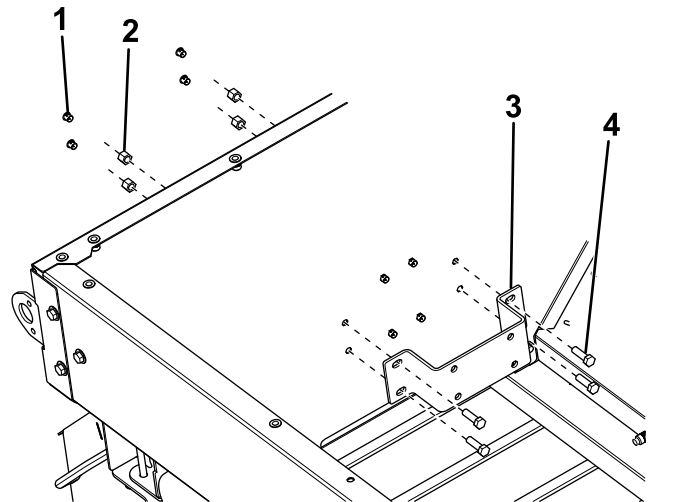

Figure 13
3. Remove and discard the 4 outer plugs from the rear of the spreader (Figure 13).
4. Secure a baffle mounting bracket to the inside rear of the spreader using 4 bolts (3/8 x 1-1/4 inches) and nuts (Figure 13).